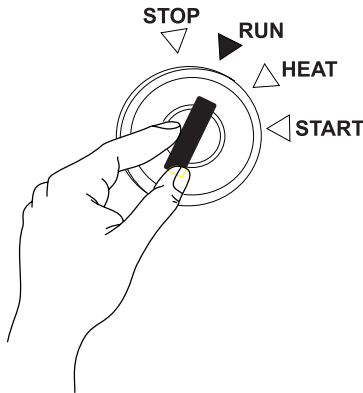

Figure 30. Starter Switch (RUN)
2. Insert the **ignition key** into the **starter switch** (Figure 30) and turn it clockwise to the **RUN** position.